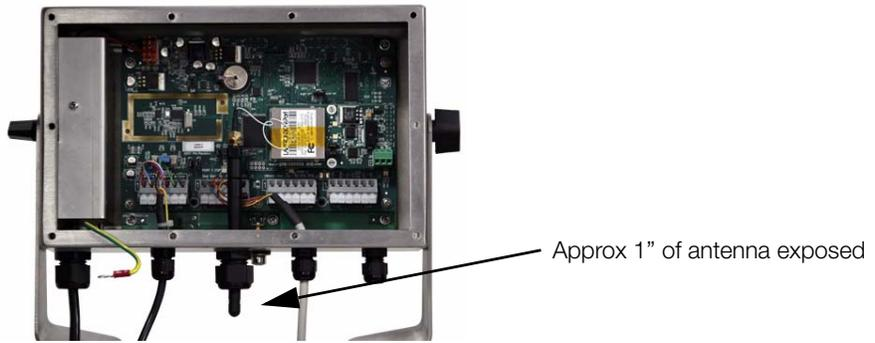

Figure 4-3. Location of WLAN antenna
2. Place the antenna through the large cord grip, closest to the option card. It is recommended for the antenna's tip to extend out of the cord grip approximately one inch (1") as shown in Figure 4-3.